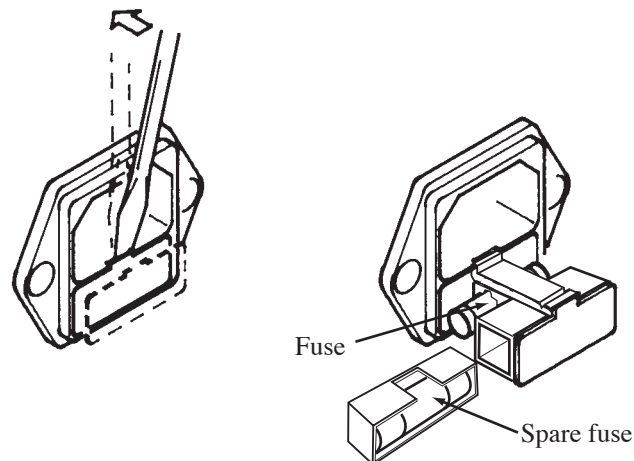

Fig.5-1 Removing the Fuse Holder
3. Use a slotted-head screw driver to remove the fuse holder, as shown in Fig. 5-1.